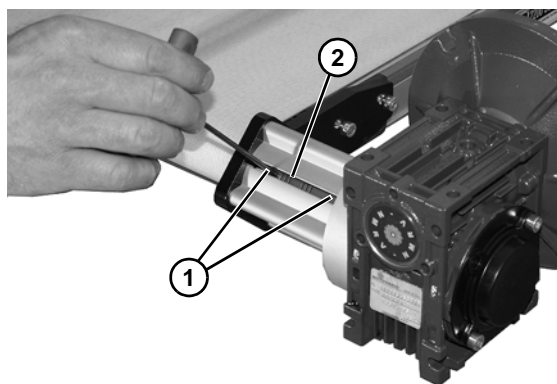

Figure 13
4. Remove fan guard (**Figure 12, item 1**) and rotate fan to align set screws (**Figure 13, item 1**) with access slot (**Figure 13, item 2**). Tighten to 32 in-lb (3.7 N-m). Repeat for second set screw.